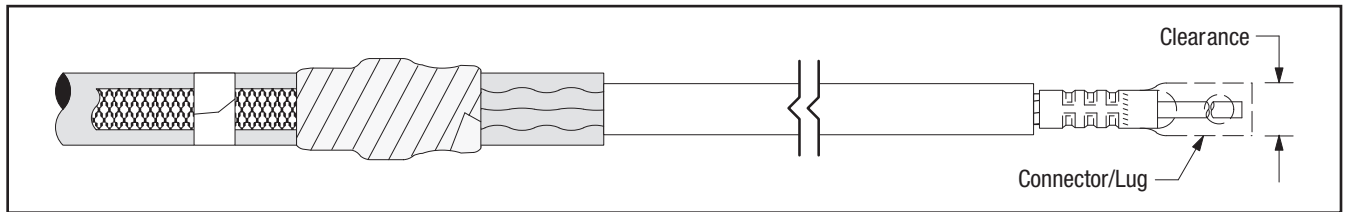

Figure 23
- 14.1 Check to insure 3M™ Cold Shrink QT-III Silicone Rubber Termination assembly fits over the selected lug or connector. If lug or connector (Figure 23) will not fit through the termination core, clean the insulation (per Step 15.0) and slide termination on cable before installing lug or connector. **DO NOT REMOVE CORE AT THIS TIME.**